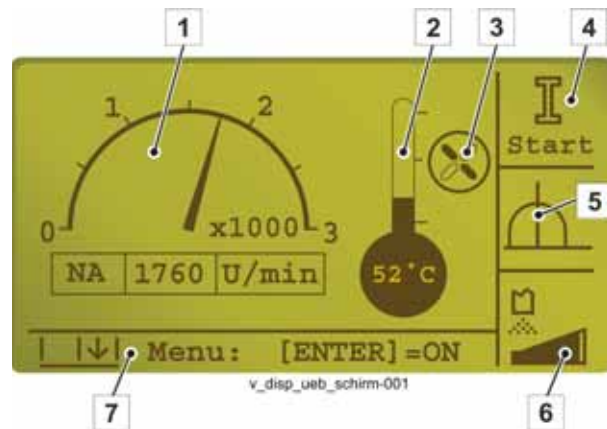

Fig. 83
A short acoustic signal confirms the release and field (4) ( Fig. 83 ) shows this symbol.
Field (5) on the display ( Fig. 83 ) shows this symbol.
While the "Pumping piston change" operating mode is active, the following symbols can be displayed in field (4) on the start screen (**Fig. 83**).